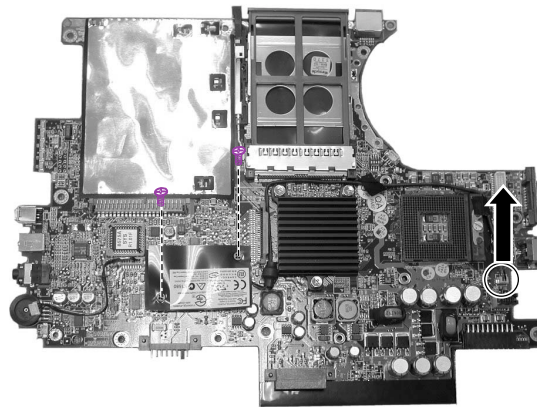

Figure 2-28 Remove the Modem card
3. Remove the two screws fastening the modem card, and then disconnect the cable from system board. (Figure 2-28)